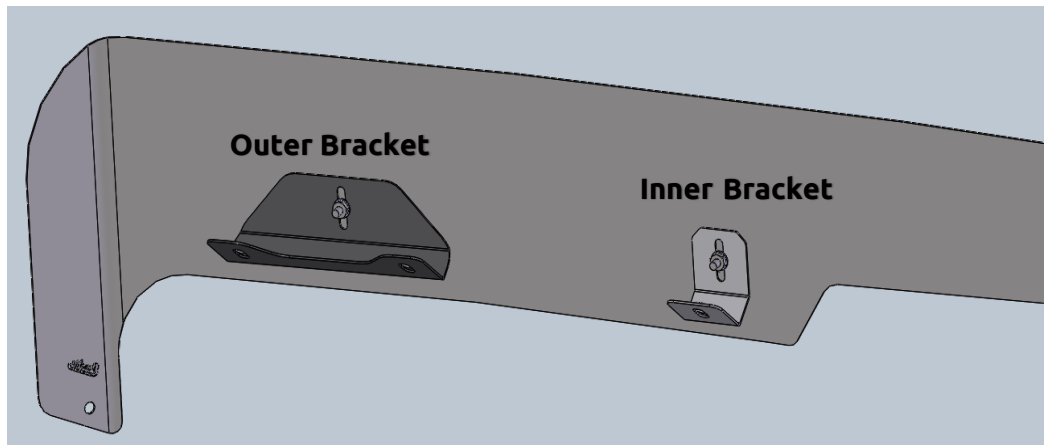

Figure 2: Mounting Bracket Locations (Back of Driver Side Shown)
3. Attach the mounting brackets with supplied 10-32 hardware in respective spots as shown in Figure 2. Leave the hardware loose enough to allow for slight adjustments.